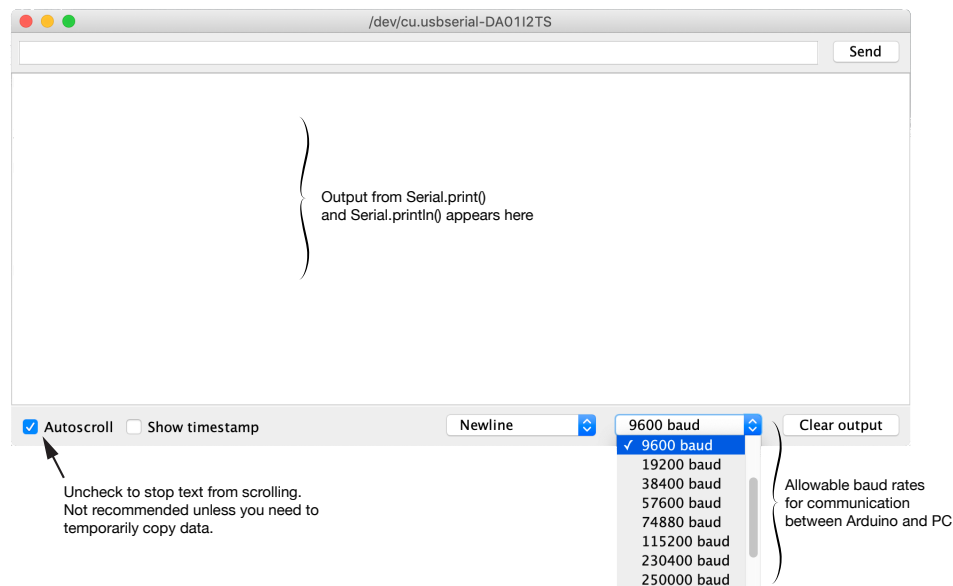

Figure 1: Image of the Serial Monitor showing options for freezing the display and adjusting the baud rate.
Figure 1 is an annotated screenshot of a Serial Monitor window running on a Macintosh computer. The Serial Monitor on a Windows computer will have a slight different appearance, but will have the same user interface controls.
2. The valid baud rates for the communication between the Arduino and your PC are shown in Figure 1. A 9600 baud rate is usually sufficient. Recent example sketches from vendors like